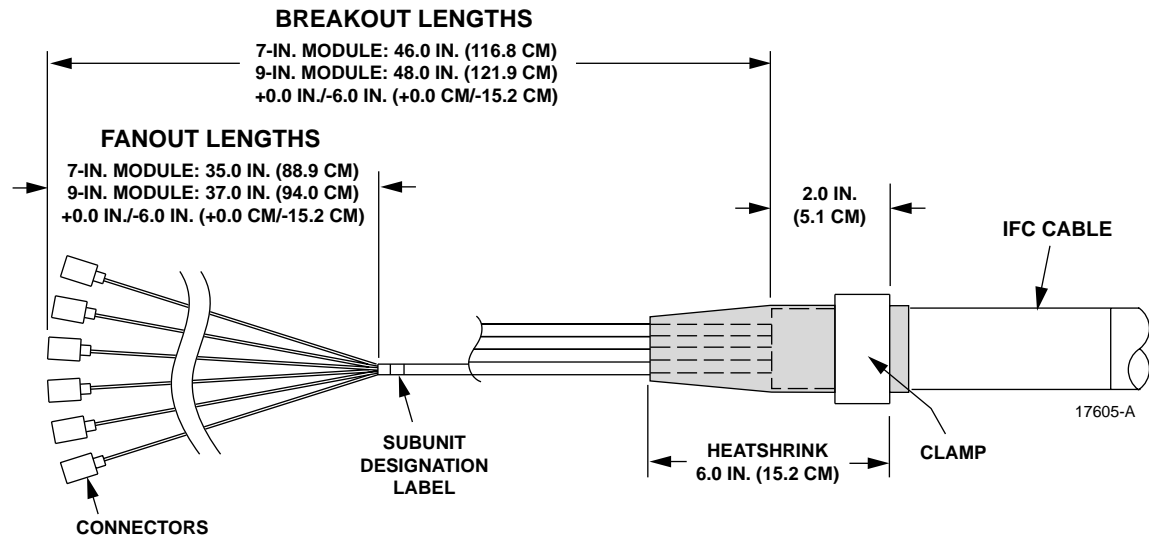

Figure 10. Recommended Breakout Dimensions for Stranded Cable (IFC Shown)
If the module was shipped without a pre-terminated cable stub, the cable must be broken out corresponding to specified dimensions. For stranded cable, refer to Figure 10.
► **Note:** Figure 10 depicts an IFC cable. For OSP cable, use the same dimensions as shown for the IFC cable. A blocking kit is also recommended. The blocking kit is not shown.